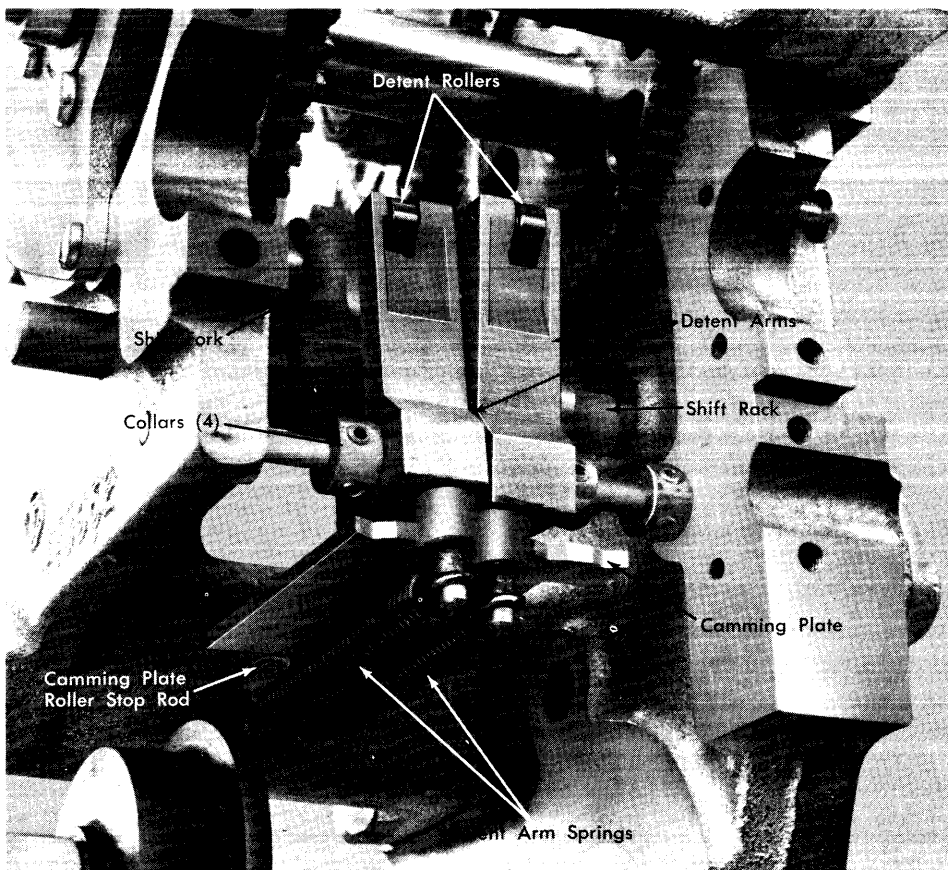

Figure 9. Manual-Clutch and Line-Selection Assembly (Lower Tractor Shaft Removed)
2. Check the adjustment of the manual clutch and the line-selection-knob assembly (Figure 9).